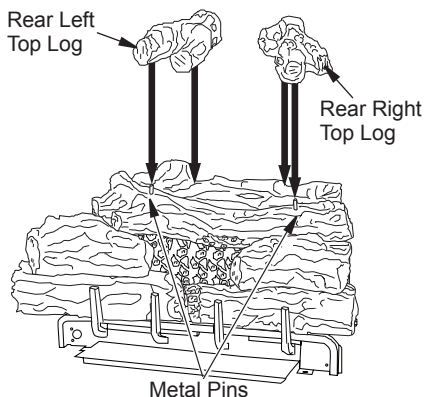

Figure 35 - Installing Rear Left Top Log and Rear Right Top Log
8. Place the rear left top log on top of the middle log and the rear log. Match the pin on the middle log with the round hole in the bottom of the rear left top log (see Figure 35). The rear log has a flat area for the back of the rear left top log to set in.
9. Place the rear right top log on top of the middle log and the rear log. Match the pin on the middle log with the round hole in the bottom of the rear right top log (see Figure 35). The rear log has a flat area for the back of the rear right top log to set in.